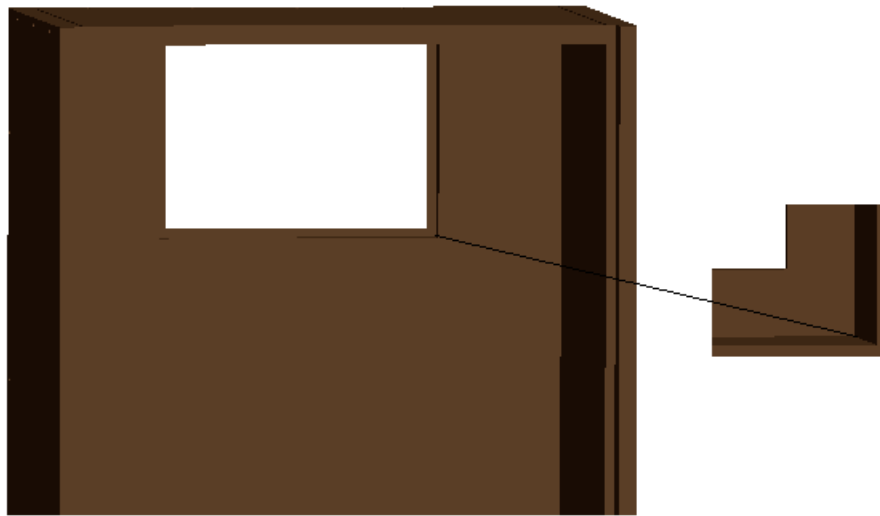

Fig. 2.1 REAR CUTOUT
- Cut a rectangular inside opening at the rear of the cabinet with the 1/4" clearance inwards to the width and height of the cooling unit. Make a 1/2" lip to place the gaskets (see Fig. 2.1).